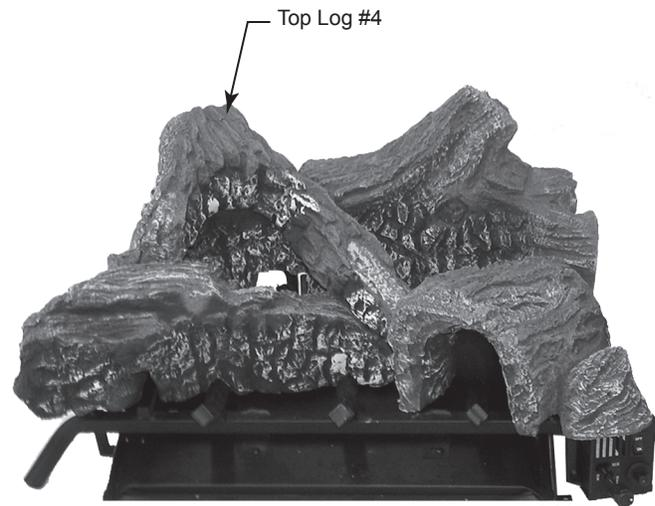

Figure 13
4. Install the top log (#4) with the base sitting on the rear log (#1) and the top sitting on log (#4). Visually check to verify the log is resting on the rear log (#1) and left log (#3). *Figure 13*